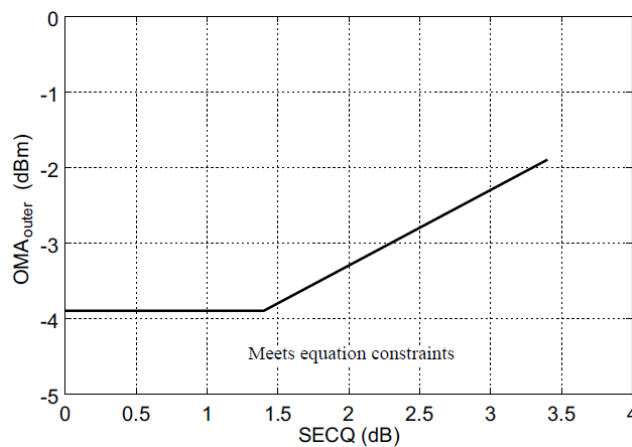

Figure 1. Illustration of Receiver Sensitivity Mask for 400G-DR4
6. Receiver sensitivity (OMA_{outer}), each lane (max) is informative and is defined for a transmitter with a value of $SECQ$ up to 3.4 dB. It should meet Equation (1), which is illustrated in Figure 1.